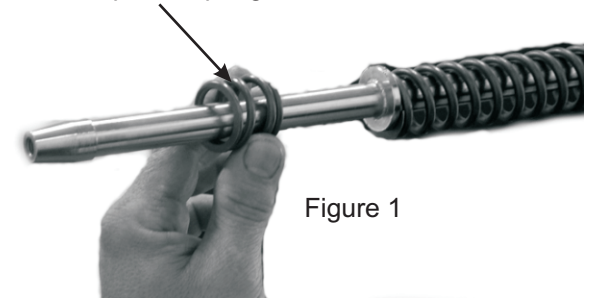
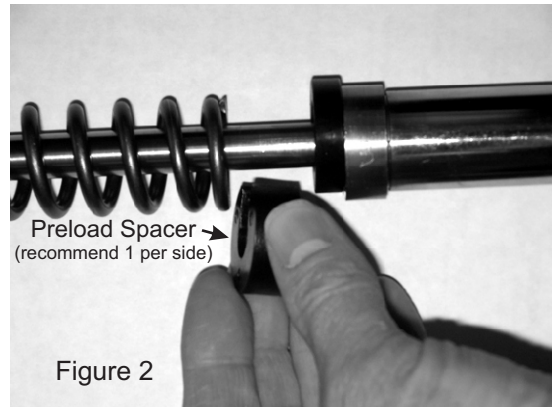

Figure 1
Figure 2
- Put the stock top out spring onto the Progressive Suspension Monotube cartridge assembly as shown (see figure 1) AND one of the supplied "C" shaped preload spacers between the top of the fork spring and the upper spring seat (see figure 2). Then insert it into the fork assembly as shown (see figure 3).